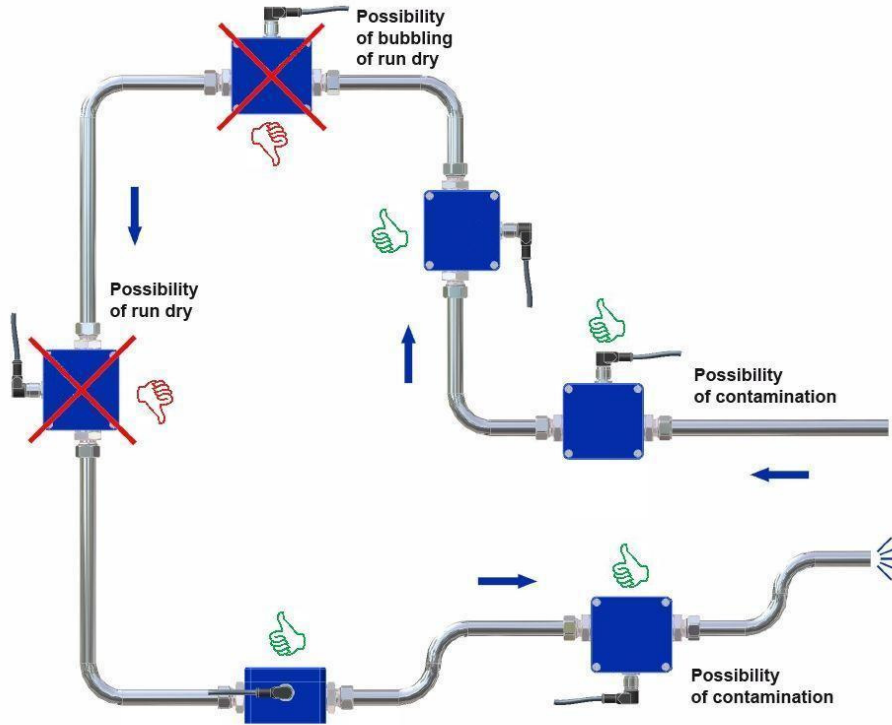

Fig. 3: Installation FMG70 Series
- The sensor can be installed at any position in the pipe system. Straight pipe sections are recommended, since the flow velocity may vary in bends (see Fig. 3).